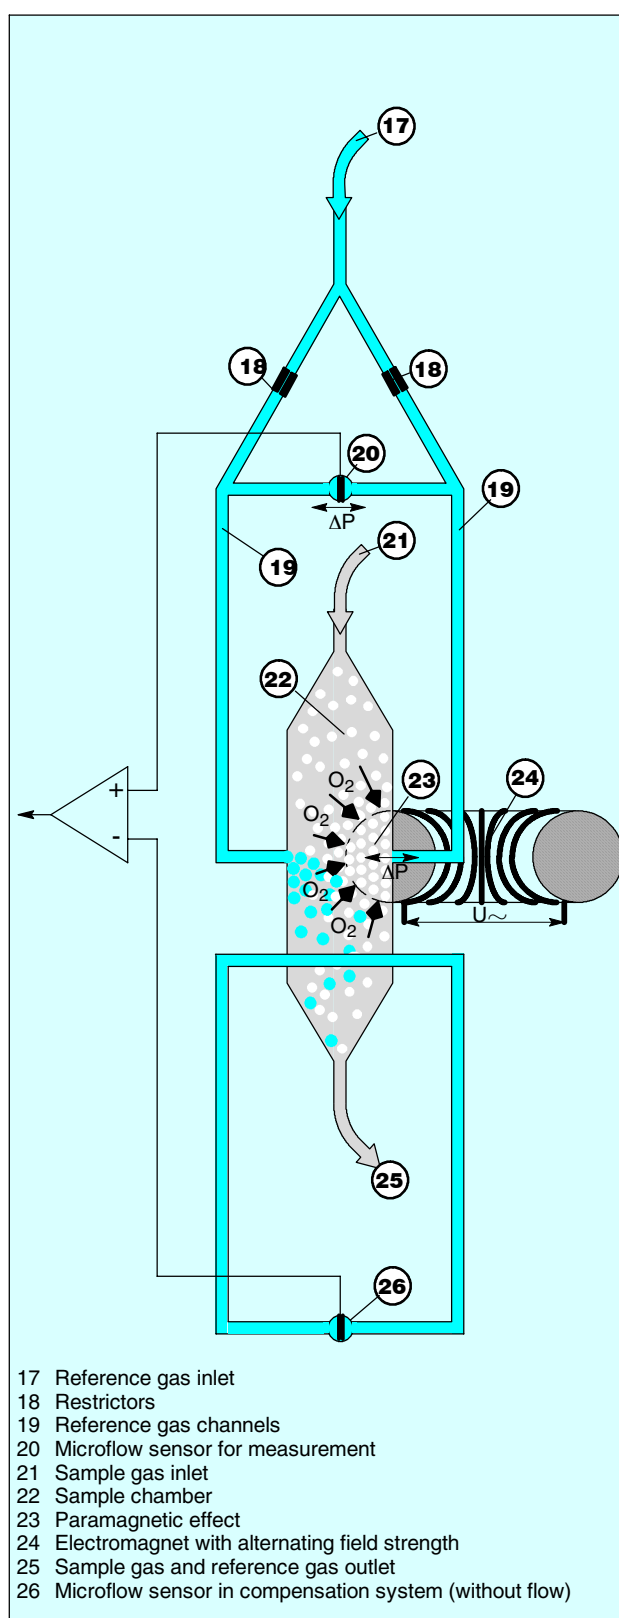

Fig. 3-4 Mode of operation
For the OXYMAT channel, one of the gases (17, Fig. 3-4) is a reference gas (N_2 , O_2 or air), the other is the sample gas (21, Fig. 3-4). The reference gas is introduced into the sample chamber (22) through two channels (19). One of these reference gas streams meets the sample gas within the area of a magnetic field (23). Because the two channels are connected, the pressure, which is proportional to the oxygen concentration, causes a flow. This flow is converted into an electric signal by a microflow sensor (20).